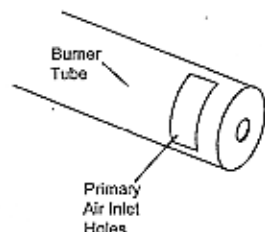

Figure 27— Injector Holder On Outlet Burner Tube
2. Inspect burner, pilot, and primary air inlet holes on injector holder for dust and dirt (see figure 27).